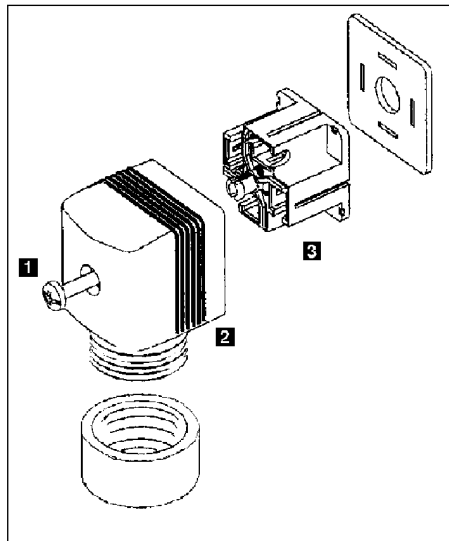

Fig. 3.2 Plug assembly type 2508
Standard DIN 43 650 plug connector with PG9-cable glands, cross section max. 1.5 mm², IP65 rating (cf. fig. 3.2).
1. To open the connector remove the screw 1 (cf. fig. 3.2).